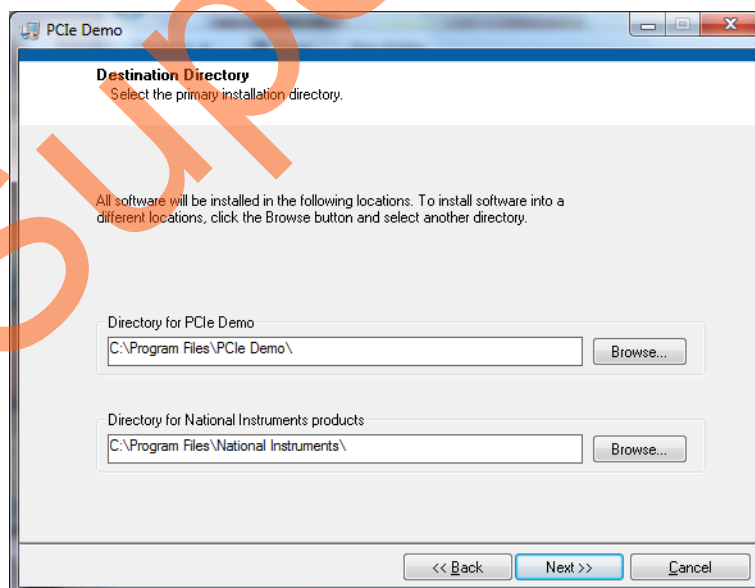

Figure 10 • GUI Installation
2. Double click **setup.exe** (*PCIe_Demo_GUI_Installer/setup.exe*). Apply default options and click **Next** to complete the installation as shown in Figure 10.